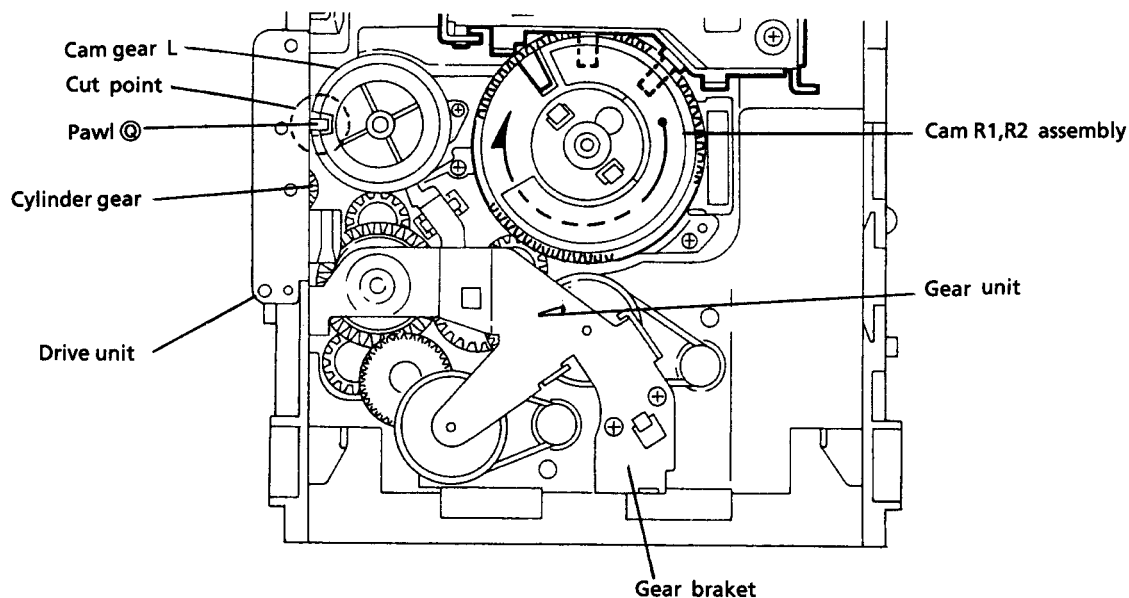

Fig. 42
[NOTE] Set the drive unit's pawl ③ so that it is positioned as shown in Fig. 42.